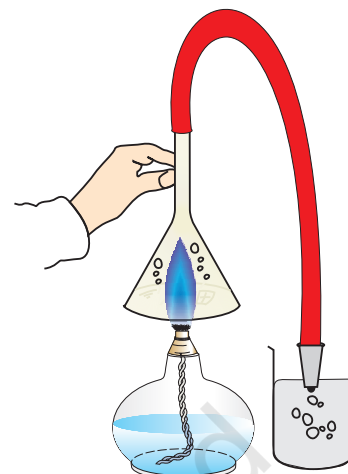

Fig. 19.1 : Complete combustion of ethanol
1.	Complete combustion: Take ethanol as fuel in a spirit lamp. Burn it as usual and cover the lamp with an inverted funnel (Fig. 19.1). Fix the stem of the inverted funnel with a rubber tubing which is attached to a jet on another end. Pass the evolved vapours through freshly prepared lime water. Do you observe any condensation of water vapours on the inner surface of the inverted funnel?